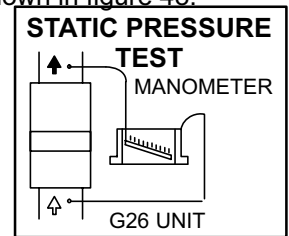

FIGURE 48
- 1 - Measure tap locations as shown in figure 48.